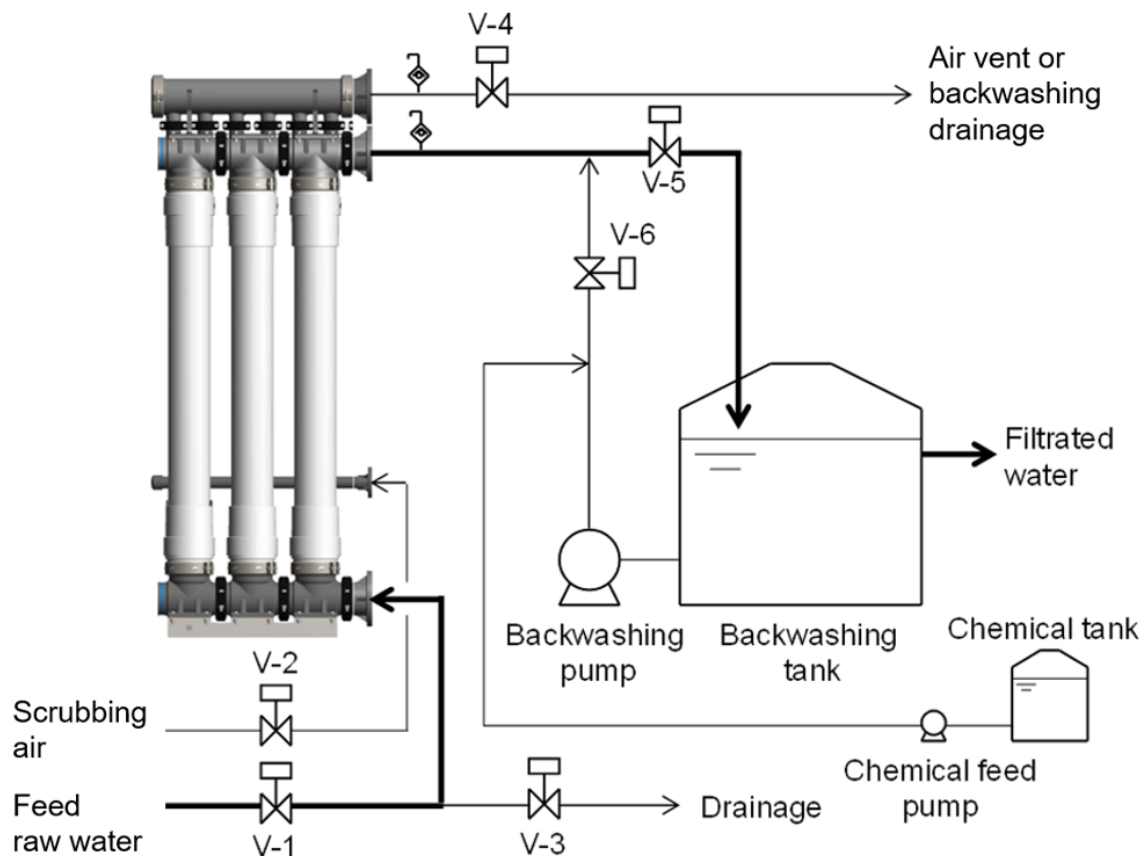

Fig. 3. Standard Example of Membrane Pipe Connection
- (1) Check that all pipes are connected appropriately and flushed out prior to the operation. Fig. 3 shows a standard example of membrane pipe connection.
- (2) Make sure the feed water valve (V-1), the drainage valve (V-3), and the air-scrubbing valve (V-2) are “closed”.
- (3) Make sure the filtrate water valve (V-5) is opened. Open the air vent valve (V-4).
- (4) Gradually open the feed water valve (V-1) and fill the feed water to the module to purge any air out.